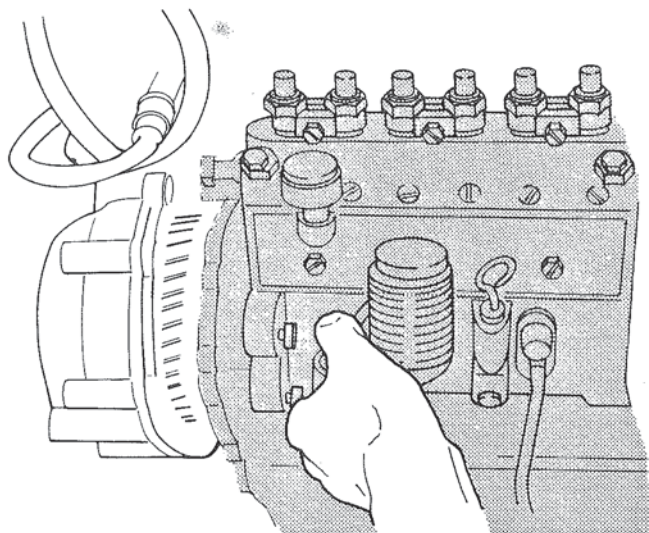

Figure 21. Removing Injection Pump.
11. Remove governor injection pump and timer as an assembly. Figure 21.